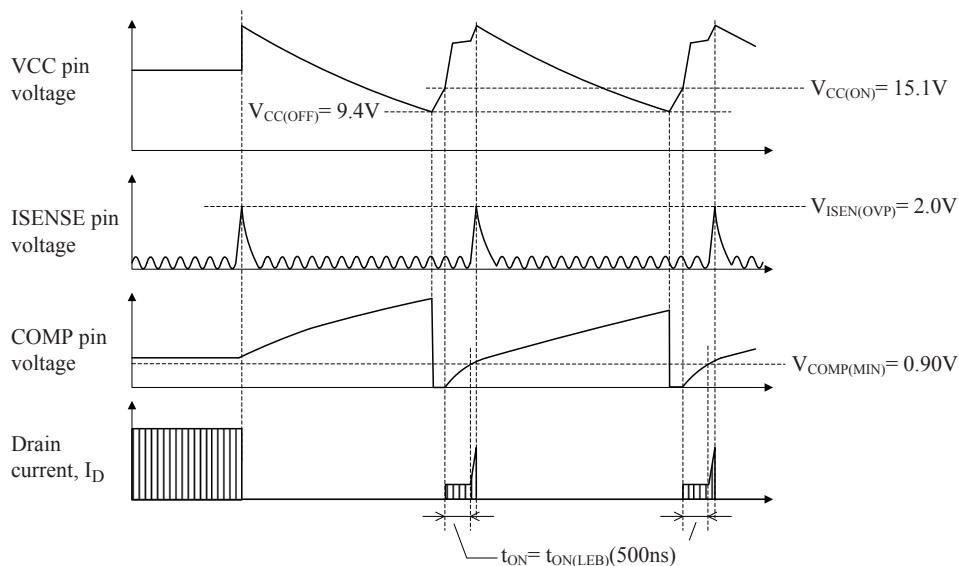

Figure 36. Waveforms when ISENSE pin OVP is being activated (LC551xD)
- ISENSE Pin Overvoltage Protection. Figure 36 shows the ISENSE pin OVP operation. When the ISENSE pin voltage with reference to the S/GND pin reaches and exceeds $V_{ISEN(OVP)} = 2.0\text{ V}$ or more, OVP is activated.